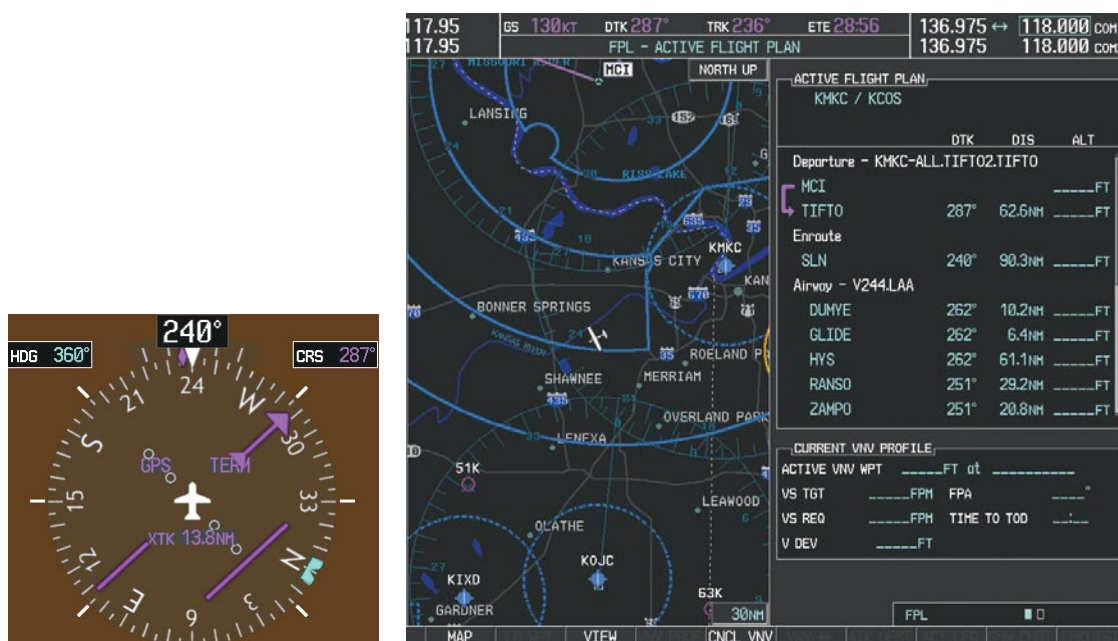

Figure 5-101 Assigned Heading of 240°
- 1) Prior to departure, the TIFTO2 departure, the airways, and the DBRY1 arrival at KCOS are loaded. See the Procedures section for loading departures and arrivals. Note the magenta arrow in Figure 5-101 indicating the active departure leg.
- 2) Figure 5-101 shows the aircraft on the assigned heading of 240°. 'TERM' (Terminal) is the current CDI flight phase displayed on the HSI indicating 1.0 nm CDI scaling.